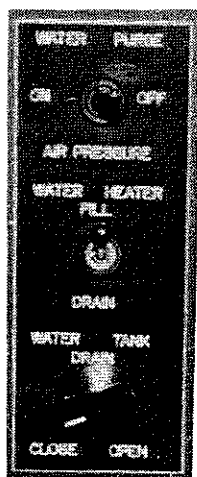
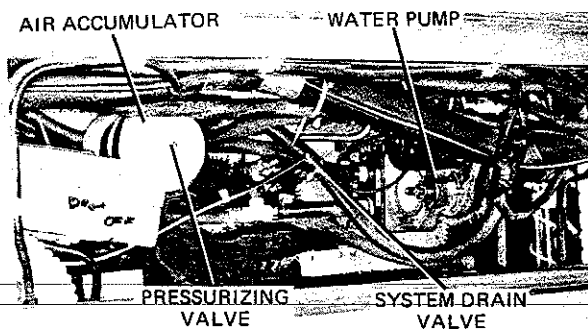
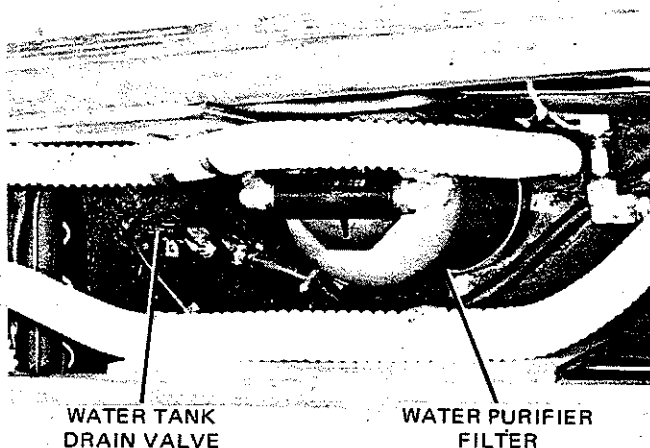

Figure 5-2. Water Purge Air Pressure, Water Heater Drain and Water Tank Drain Controls
Figure 5-3. Water Pump Location
Figure 5-4. Water Purifier Location
1. Empty the Water Tank(s) — To drain tank(s), set the **Water Tank Drain** control (on the control panel in the bed base cabinet) to **Open**, figure 5-2. After tank(s) is completely drained turn **Water Tank Drain** control to **Closed**.
The air accumulator and water pump are shown in figure 5-3; the water purifier and water tank drain valve are shown in figure 5-4.
The water pump, figure 5-3, is equipped with a factory-calibrated pressure control switch which is preset to turn the pump on when the system pressure falls below 20 psi; and turn the pump off when the pressure reaches 35 psi. If the pump has been out of service for a period of time, it is advisable to open a faucet before turning the pump on. When water flows steadily from the opened faucet, close faucet and observe that pump shuts off when system becomes pressurized. (it may also be necessary to bleed the air from the other faucets as well.) When the potable water supply tank(s) level is low, or empty, shut the pump off to prevent possible damage to the pump motor. In addition to integral motor overload protection, the pump mechanism is also protected from jamming by the presence of an inline filter (pump guard) between the pump and the supply tank.
The bacteriostatic water purifier, figure 5-4, filters and purifies the potable water supply to eliminate tastes, odors and coloration produced by chlorine, rust, insecticides, detergents, sediment and other foreign objects. Satisfactory elimination of water-borne disease-carrying bacteria is accomplished by a hygienic filter bed which consists of silver ions absorbed on sponge silver metal which is deposited in a finely divided form on granular activated carbon of high surface area.
The following procedures show the use of the various drain valves, controls and pressurized air system to remove the water from the plumbing and appliances in the fresh water supply system. Refer to figures 5-2 through 5-7 for the location of controls and valves.
4. Turn the **Water Tank Drain** control to **Open** position, and the **WATER HEATER** switch to **Drain** position. Both controls are located on a panel in the bed base cabinet or vanity, figure 5-2.
7. Set **Water Purge Air Pressure** switch, figure 5-2, to **On** to activate the solenoid which applies air pressure to the input water line to purge the water system. Note that it may be necessary to start the engine to build up air pressure. An air hose must be connected momentarily to the valve fitting on top of the accumulator, figure 5-3, to be sure that no water remains.